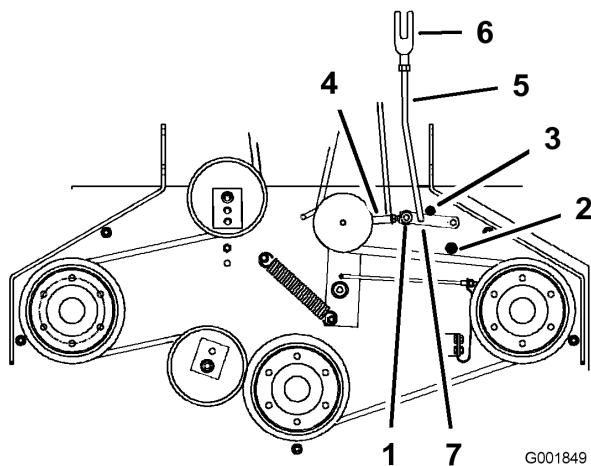

Figure 52
5. Make sure the assist arm is against the rear assist arm stop on the deck (Figure 52).
7. The assist arm should contact the front assist arm stop on the deck. If it does not contact, adjust the bellcrank so it is closer to the gusset (Figure 52).
8. To adjust the assist arm link, remove the hairpin cotter pin from the assist arm (Figure 52).
11. Install the assist arm link into the assist arm and secure it with the hairpin cotter pin (Figure 52).